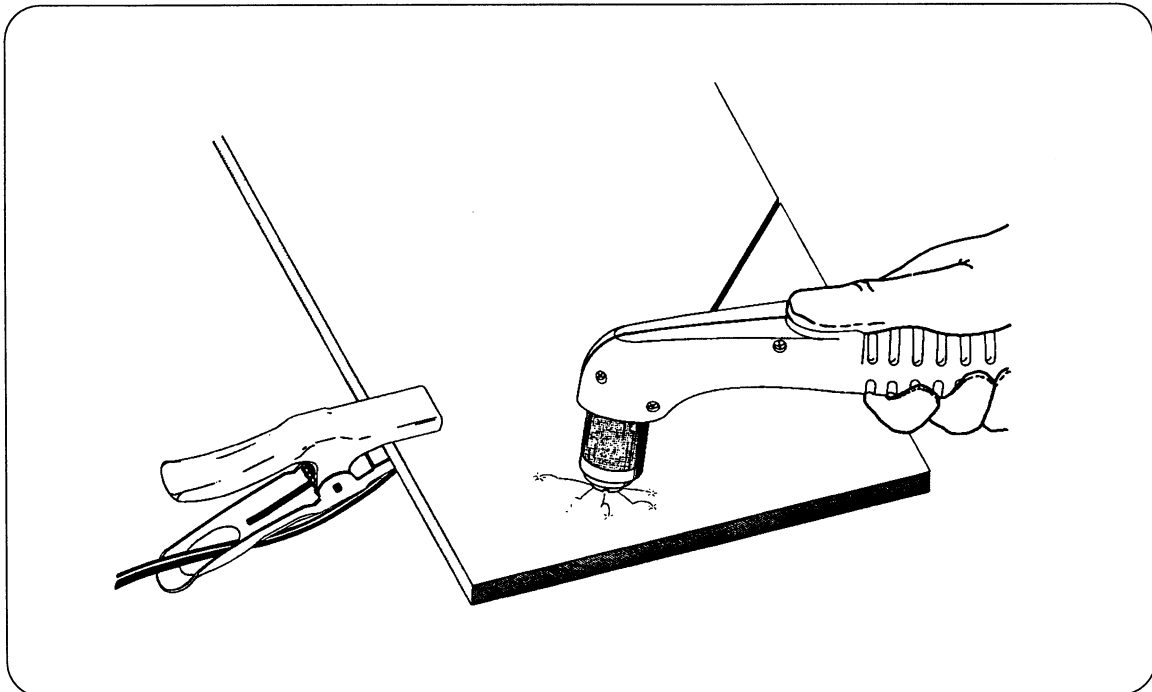

Figure 4-2 Proper Work Clamp Connection
13. Attach the work clamp to the work table or workpiece. Do not attach the work clamp to the portion of the workpiece that will fall away. (Fig. 4-2).